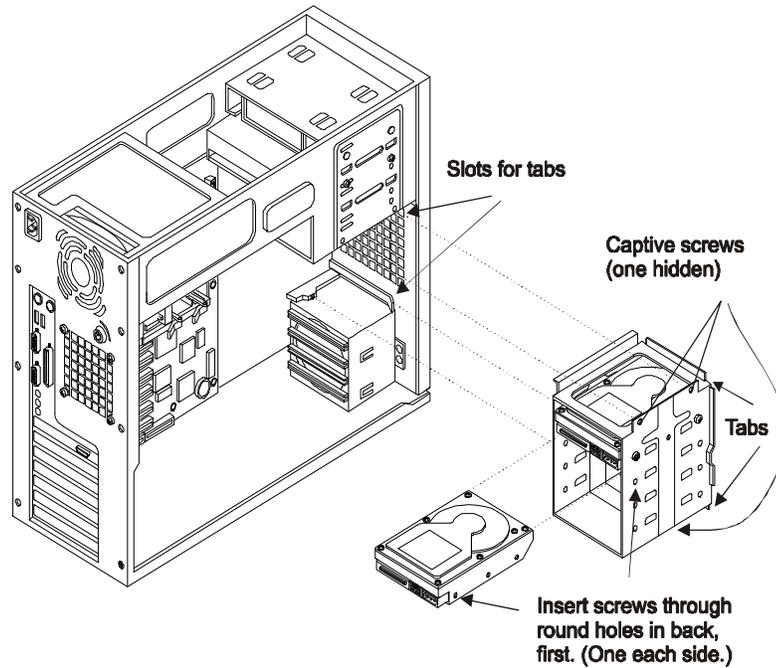

Figure 4-3. Adding a Hard Disk Drive
7. Remove the cage (see Figure 4-3).
8. Slide the drive into the cage opening with the cable connectors toward the rear of the system (see Figure 4-3). Align the screw holes on the drive (or the shelf or brackets) with the screw holes in the hard disk drive cage.
10. Reinstall the mass storage cage. Make sure the tabs at the front on the cage slide into the slots provided for them (see Figure 4-3).